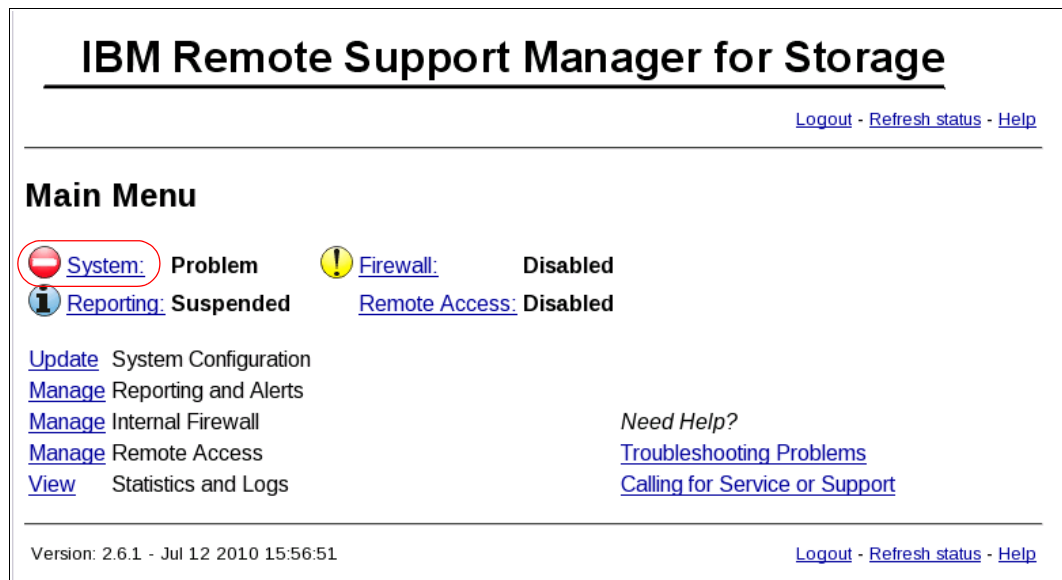

Figure 16-9 RSM main menu
3. You return to the Main Menu. The upper right menu contains a logout link. To start the setup, click **System** as shown in Figure 16-9.